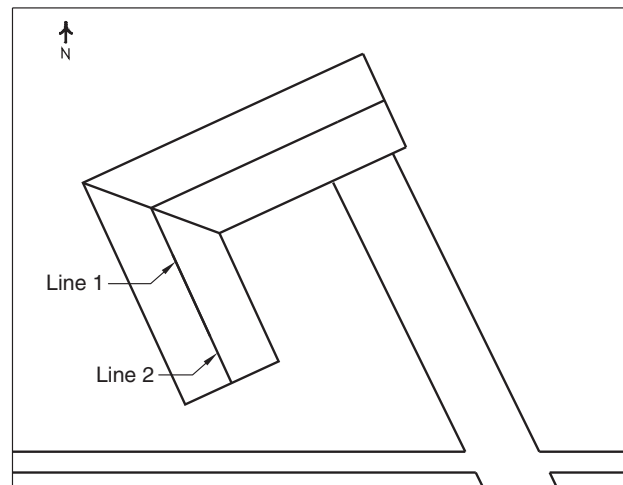

Fig. 18-9
2. Change the roof line to match the one shown in Fig. 18-9. On both ends of the house, erase the diagonal lines; then draw the short line segments to connect the roof ridge to each end of the house.